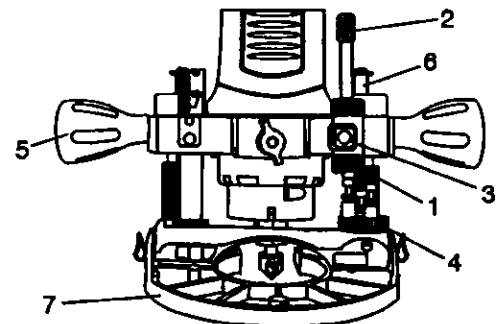

Fig. 16
- 1 Raise plunge router depth stop rod by turning the lower depth stop lock nut (1) counter clockwise until it is positioned at the bottom of the depth stop rod (2) (see Fig 16) Push depth stop quick release button (3) and raise the depth stop rod to its maximum height and then release the button
- 2 Rotate plunge action turret (4) until the shortest stop screw is under the depth stop rod (2)
- 3 Loosen both height adjusting knobs (5) by turning them counter clockwise